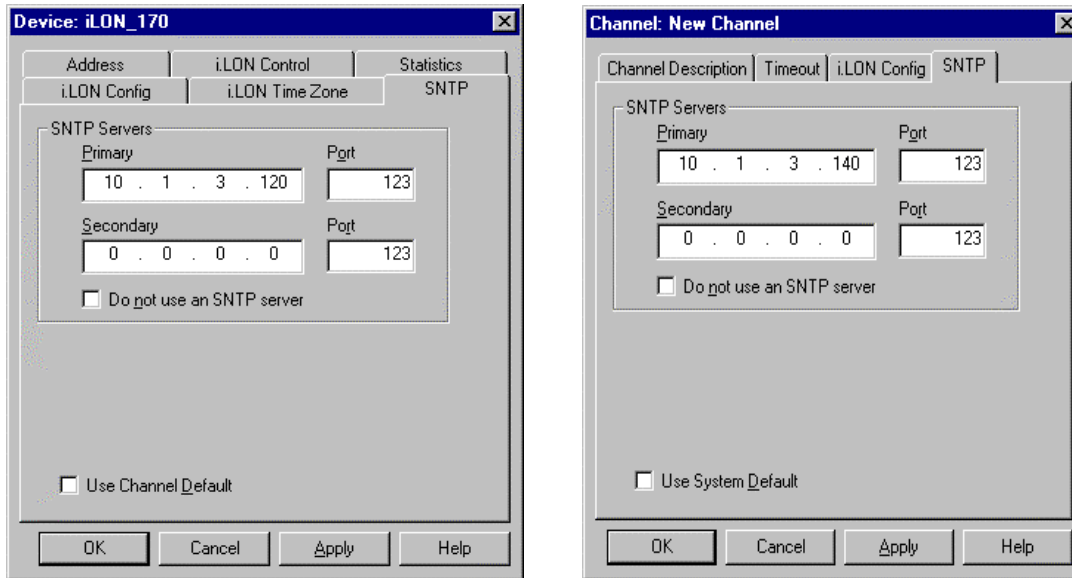

Figure 8-2 – SNTP Server Configuration for a Channel and Device
2. Clear the **Use System Default** or **Use Channel Default** option and enter the IP addresses of the SNTP servers as shown in Figure 8-2. Leave the default port numbers of 123.